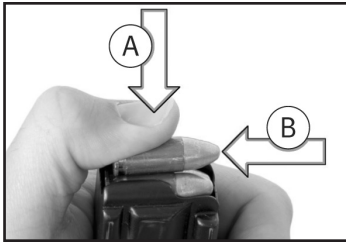

Fig. 25 – Loading the magazine
3. Press the rim of the cartridge down against the forward edge of the magazine follower or on the top cartridge already in the magazine (Fig. 25 Ⓐ).
4. Slide the cartridge back into the magazine under the feed lips (Fig. 25 Ⓑ).